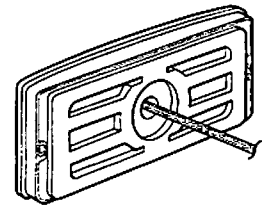

Fig.3: Packing Placement
8. Carefully drill a 3/4-in. hole centered between the two wall anchors. (Fig.3)